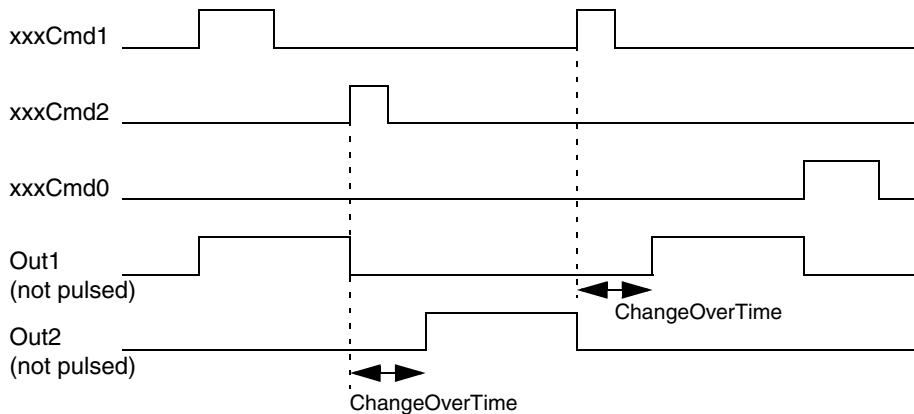

Figure 125. Change-over action state diagram
(switching forward/reverse). The parameter *ChangeOverTime* sets a delay time, before the direction can be changed (see Figure 125).
- The *Ilock1*, *Ilock2* and *Ilock0* interlocking parameters block commands in all modes, so that the object cannot be forced to the activated or deactivated states, respectively. The *Inhibit* signal will suppress interlock signals when True. Figure 125 shows which changes between states that are blocked by interlocking parameters.